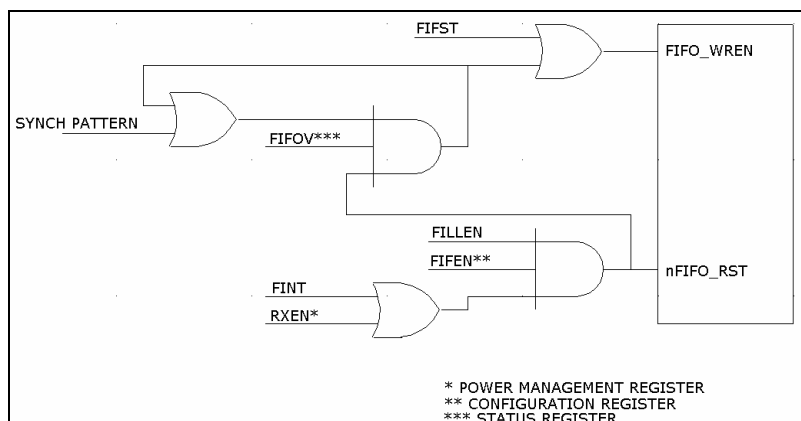

Figure 9. FIFO Write and Reset Configuration
**Note:** Clearing this bit will issue a FIFO reset. See Figure 9 for FIFO write and reset configuration.